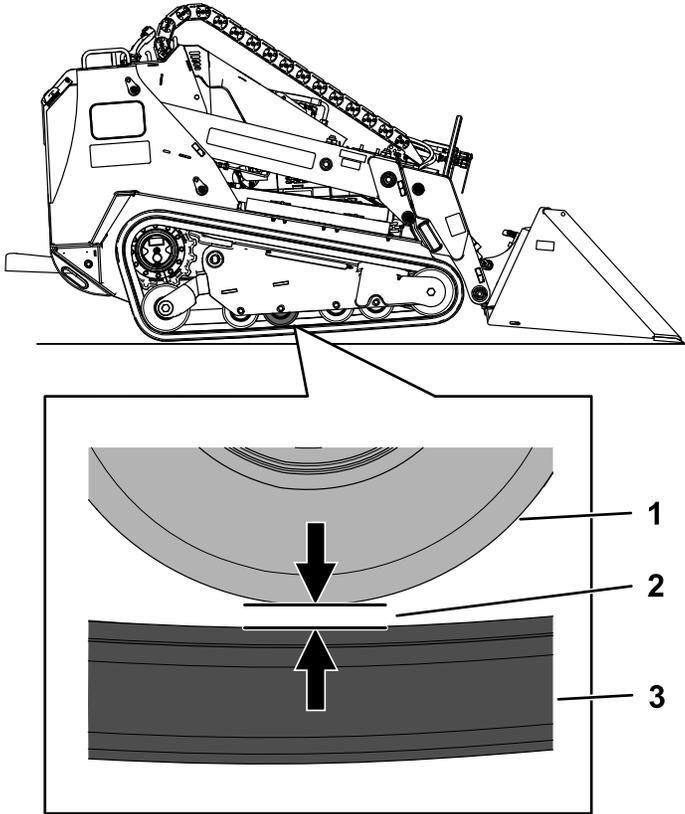

Figure 70
- Verify that the gap between the 2nd road wheel from the rear and the track is 20 mm (0.8 inch) as shown in Figure 70. If adjustment is needed, proceed to Adjusting the Track Tension \(page 45\)
- Using a 1/2 inch drive ratchet, turn the tensioning screw until the gap between the road wheel and track is 20 mm (0.79 inch) as shown in Figure 70.
the road wheel and track is 20 mm (0.79 inch) as shown in Figure 70.